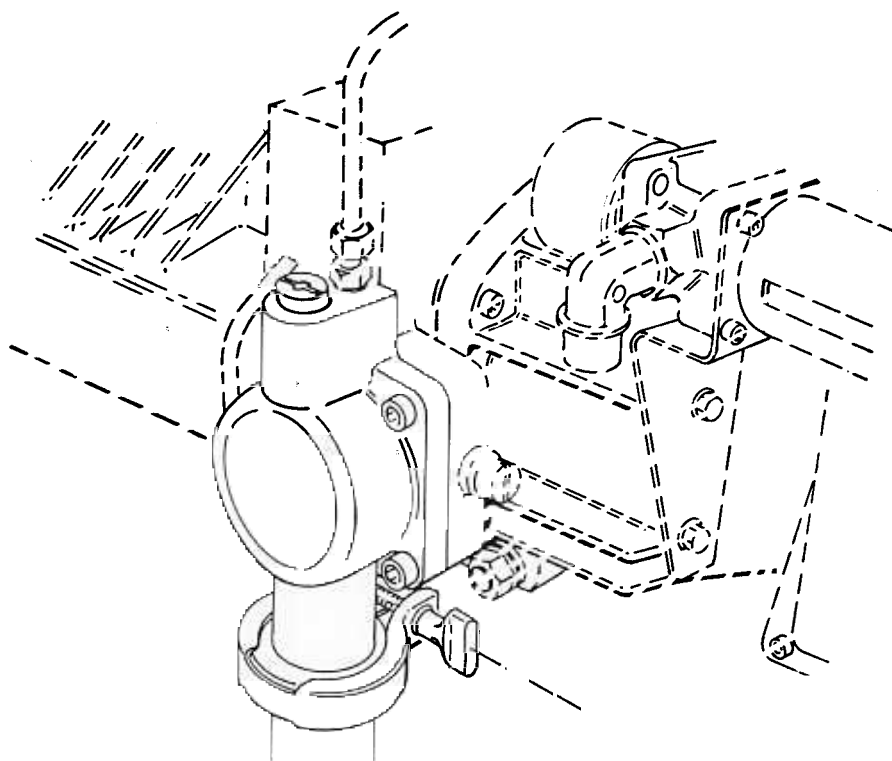

Figure 12 - Clamp Orientation
4. Check the clamp securing the NW40 elbow to the pump; ensure that : it is correctly orientated so that the seal remains functional under load induced by the silencer as its weight increases with particulate deposits; it is correctly positioned when the clamp bar is parallel with, and in its closest position to, the pump body as shown in Figure 12.